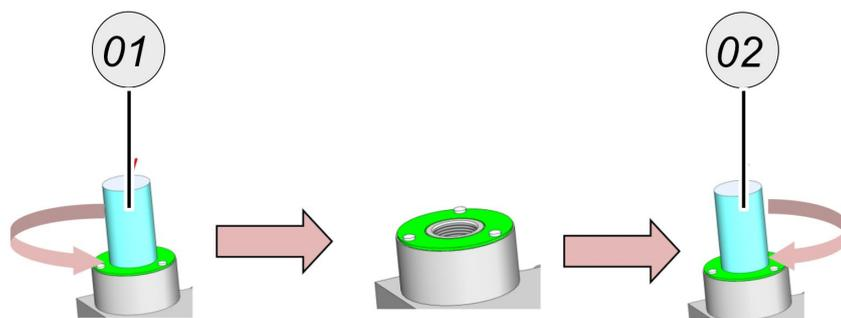

Fig. 2
- ▶ Rotate the O2 sensor to be submerged out of the sensor chamber (Fig.2 (1)).
- ▶ Turn the new O2 sensor into the sensor chamber (Fig.2 (2)).